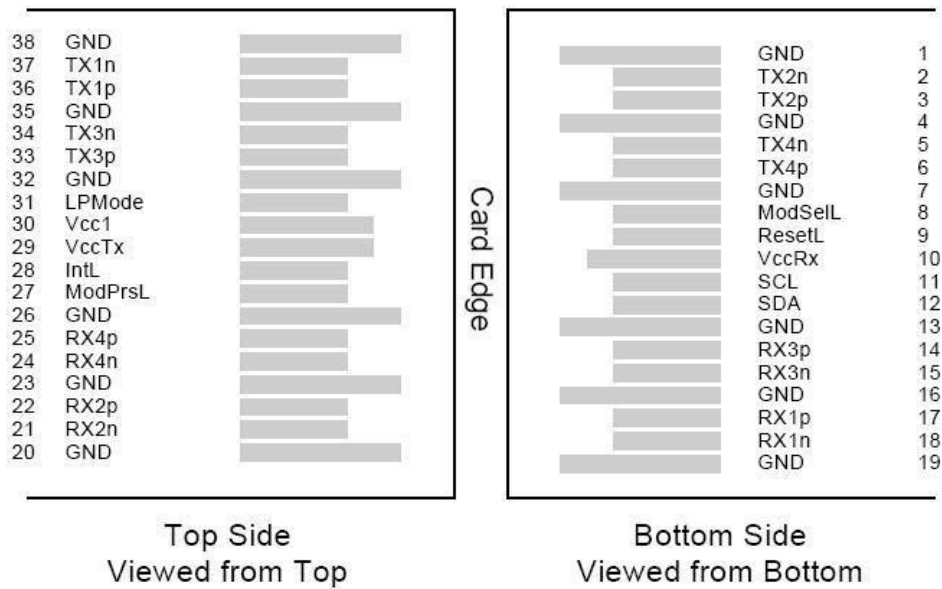

Figure 3. MSA compliant Connector
- 2.VccRx, Vcc1 and VccTx are the receiving and transmission power suppliers and shall be applied concurrently. Recommended host board power supply filtering is shown in Figure 3 below. Vcc Rx, Vcc1 and Vcc Tx may be internally connected within the module in any combination. The connector pins are each rated for a maximum current of 1000mA.